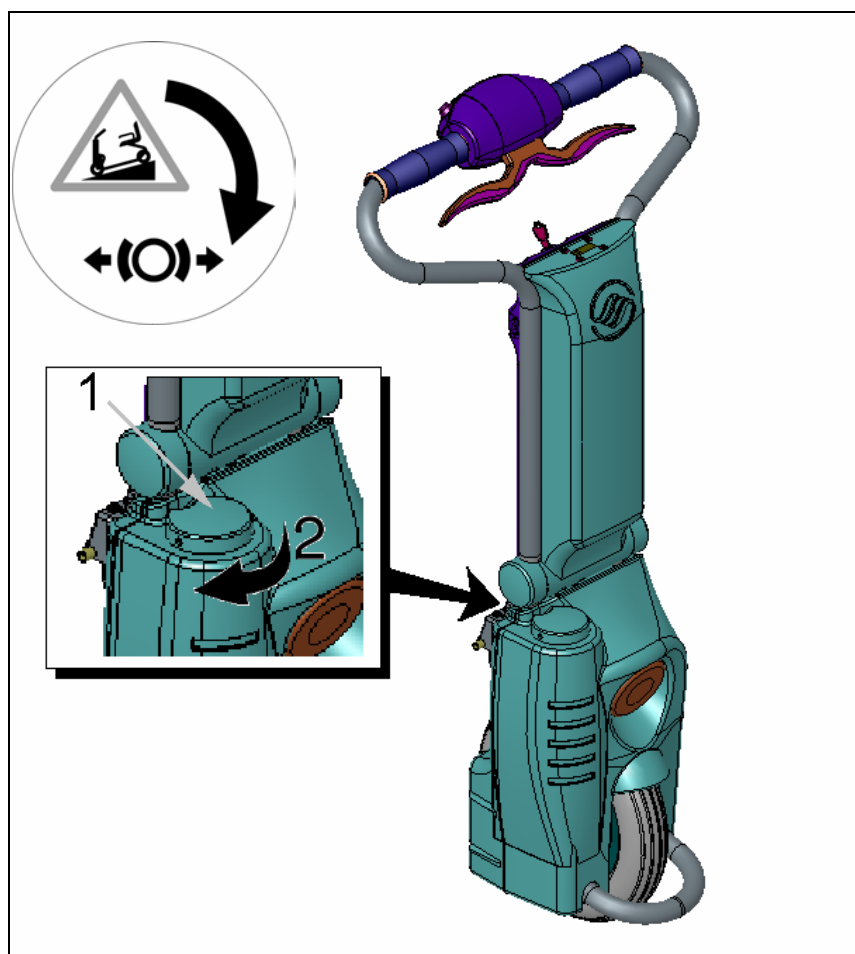

Figure 13
See **figure 13**: in order to disengage the parking brake twist the parking brake release knob (1) clockwise (2) to the end position.